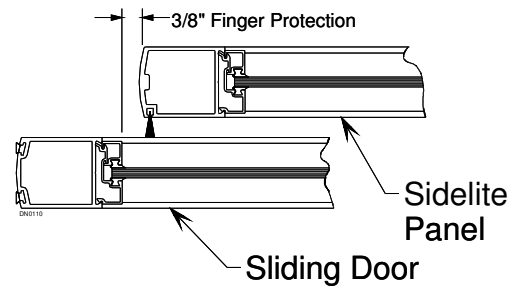

Figure 31
7. Adjust door stop so there is a 3/8 inch gap from face of glass stop to face of sidelite or swing panel (See Figure 31). In some cases, the door stop will be mounted on jamb tube.